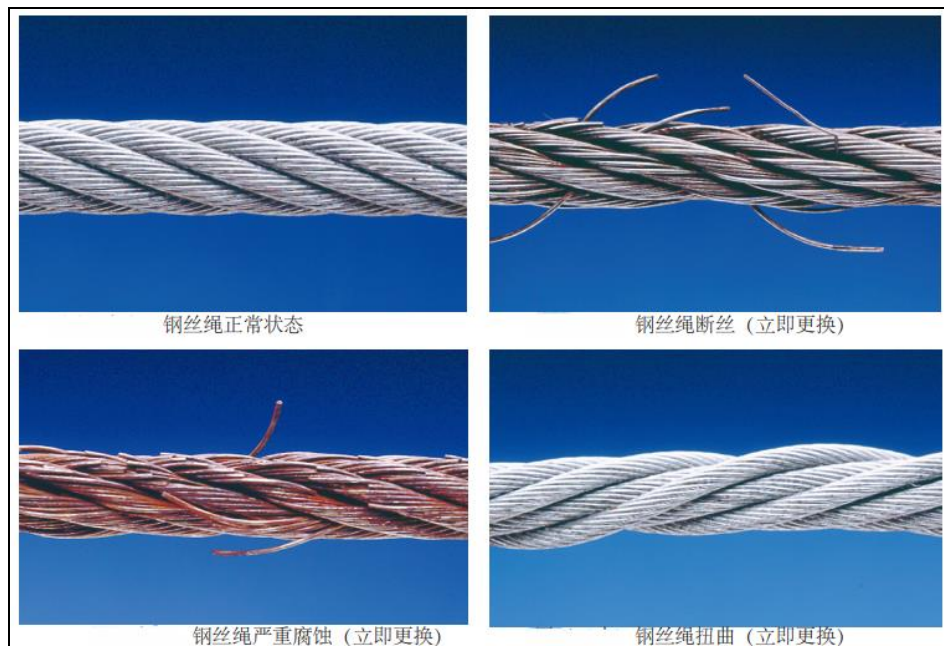

Figure 14
9.6 The operator should often check the visible parts and fixed parts of the wire rope. If any of the following conditions occurs, the wire rope should be scrapped and replaced with a new one in time (see Figure 14).